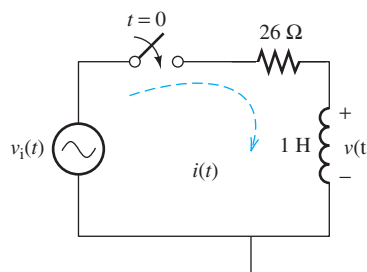

FIGURE P5.51 Circuit for Problem 5.51.
- 5.51 (A) Find $i(t)$ and $v(t)$ in the circuit shown in Figure P5.51 assuming $i_L(0^-) = 1 \, \text{A}$, and the input voltage $v_i(t) = 30 \cos(15t) \, \text{V}$.